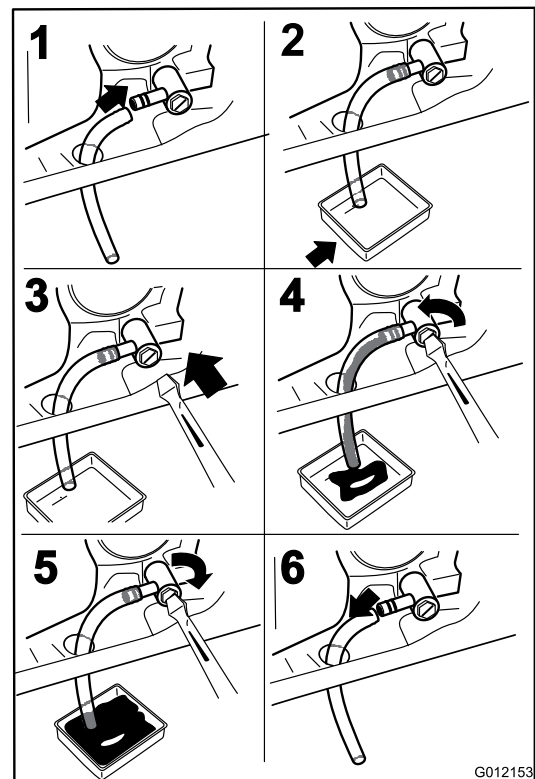

Figure 38
4. Stop the engine, remove the key, and wait for all moving parts to stop before leaving the operating position (Figure 38).